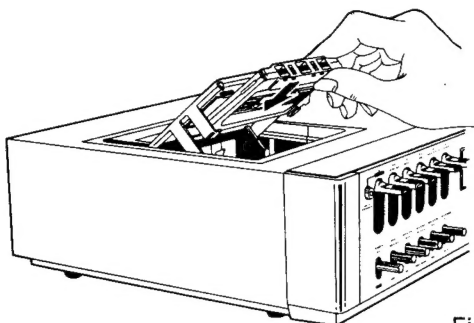

Fig. 3
- 1) Depress the stop-eject lever ⑥ to open up the cassette holder ⑨.
- 2) Properly insert the cassette into the cassette holder ⑨ as shown in Fig. 3.